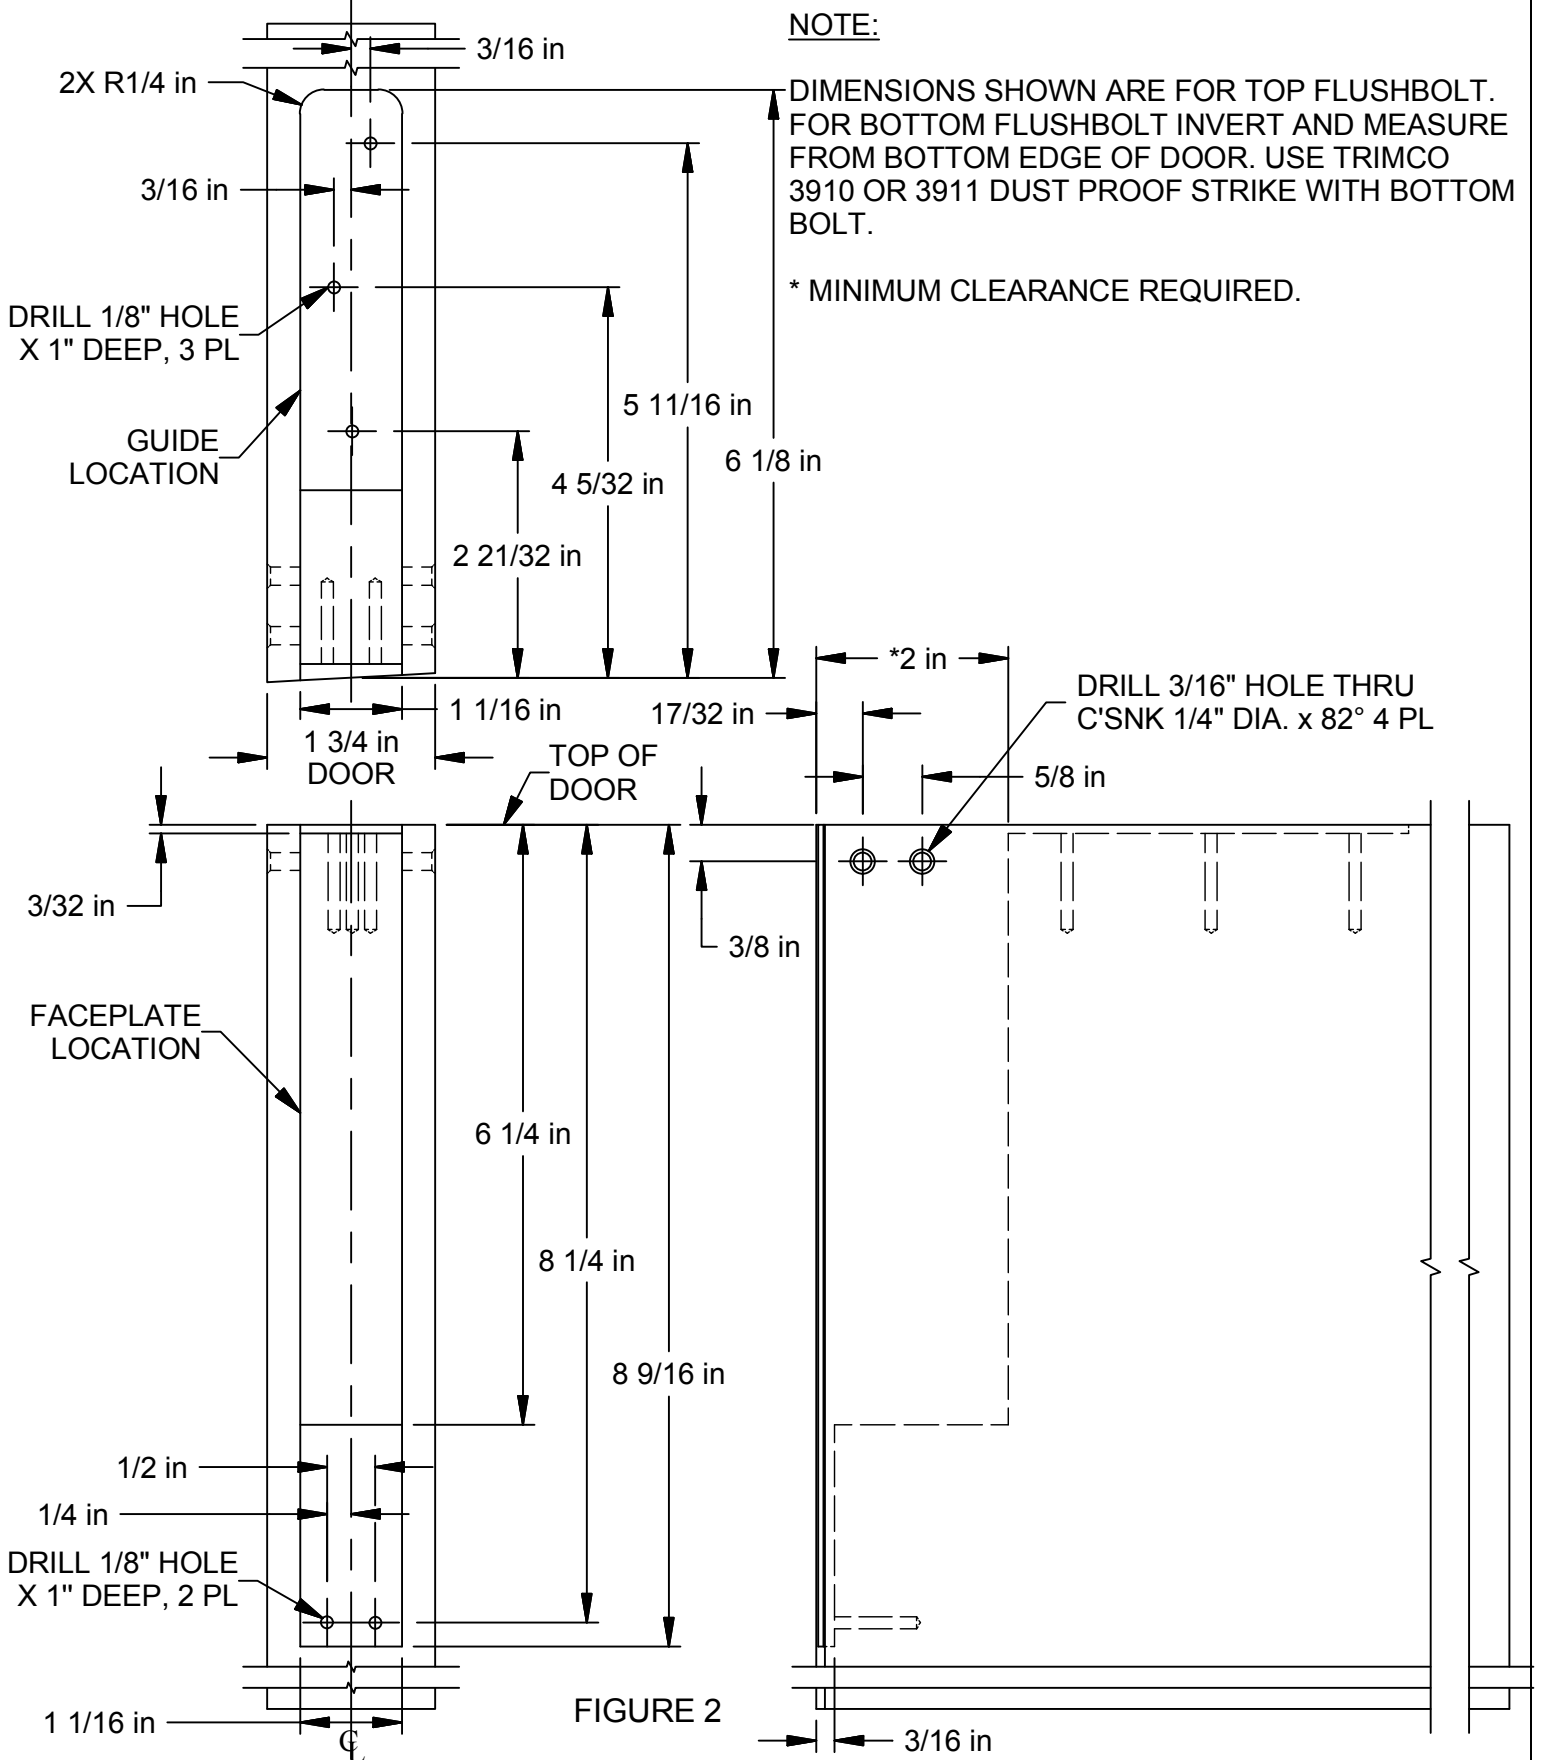

FIGURE 1
- 4) INSTALL TRIMCO 3815L AS SHOWN IN FIGURE 1.
- 6) ADJUST BOLT SO WHEN FULLY RETRACTED TO PROVIDE 1/8" CLEARANCE BETWEEN BOLT AND STRIKE. TO ADJUST BOLT REMOVE SCREWS UNDERLINED IN FIGURE 1 AND REMOVE BOLT. ROTATE BOLT UP OR DOWN AS REQUIRED, THEN REPLACE BOLT.